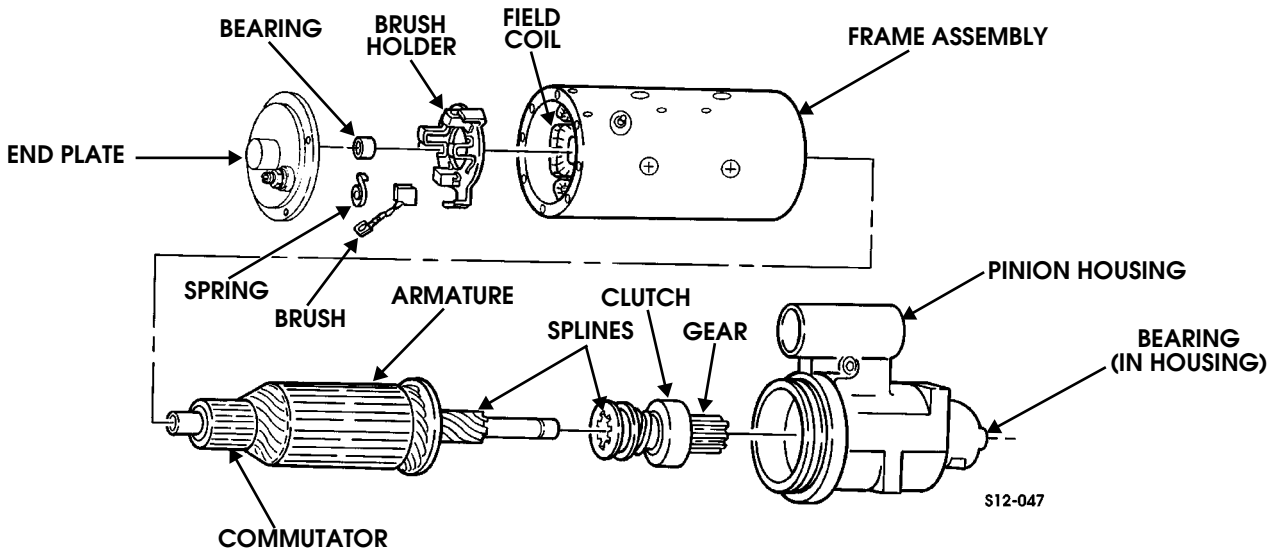

Figure 12-26: Starter Components
Inspect clutch for broken spring, damaged gear or splines, and non-lockup. Replace clutch if damaged (Figure 12-26).
Inspect bearings in head end and pinion housing for cracks, roughness, galling, or damage. Replace bearings if defective (Figure 12-26).
10. Apply chassis grease to armature shaft, shift lever studs, groove of clutch, and inside diameter of end plate (Figure 12-26).